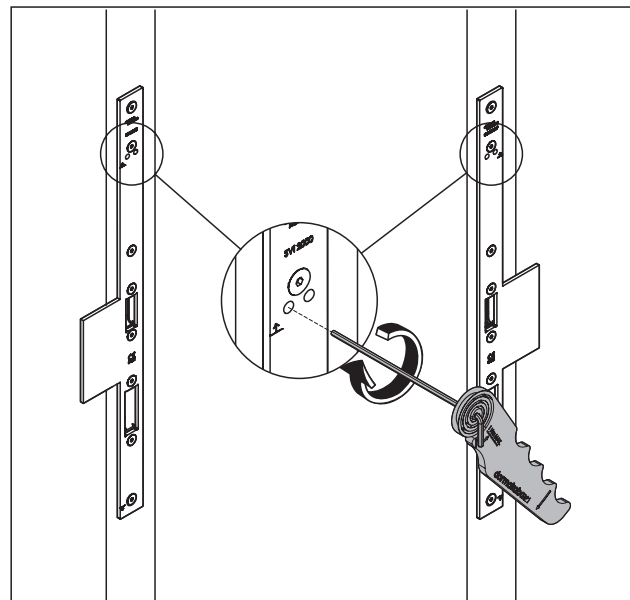

Fig. 56 Fix espagnolette bolt
2. Fix the upper espagnolette bolt through the drill hole in the forend with 1.3 Nm (Fig. 56).